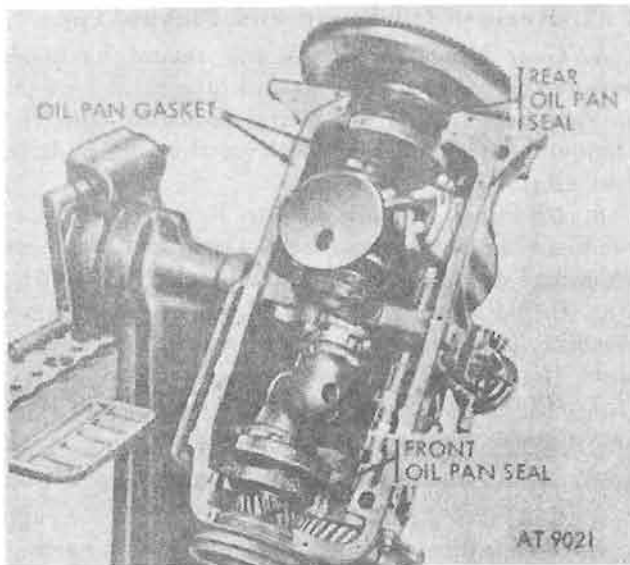

Figure 4-88. Oil pan gasket and seals.
c. Oil Pan Gaskets and Seals. Remove and discard oil pan front and rear seal. Discard left and right gasket (fig. 4-88).